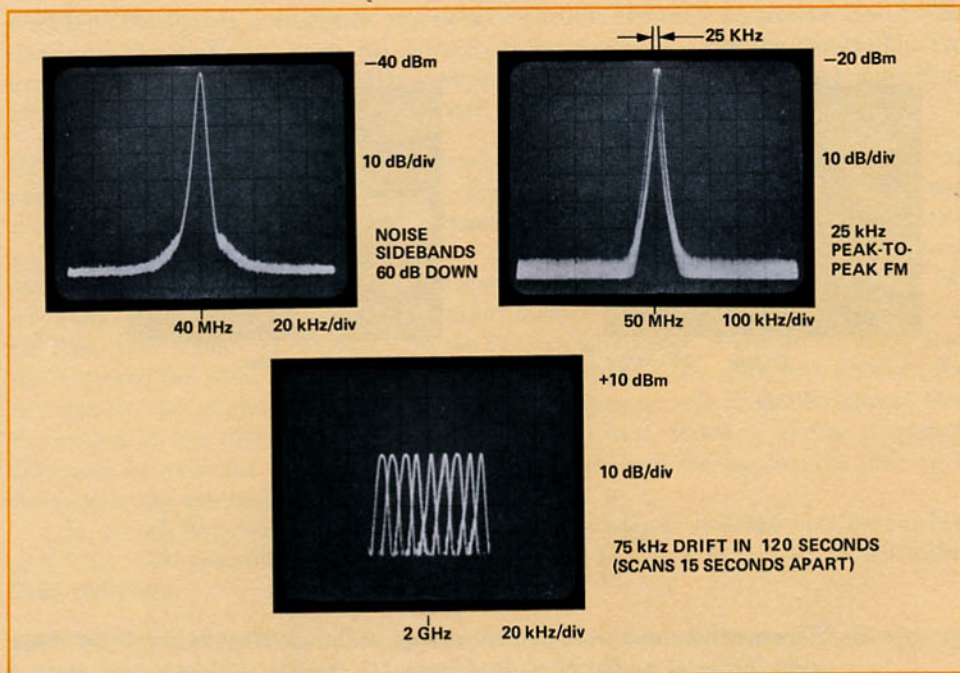

Figure 1.6
4. The spectrum analyzer can be used to measure long and short term stability. Parameters such as noise sidebands on an oscillator, residual FM of a source and frequency drift during warm-up can be measured using the spectrum analyzer's calibrated scan times. These parameters are shown in Figure 1.6.